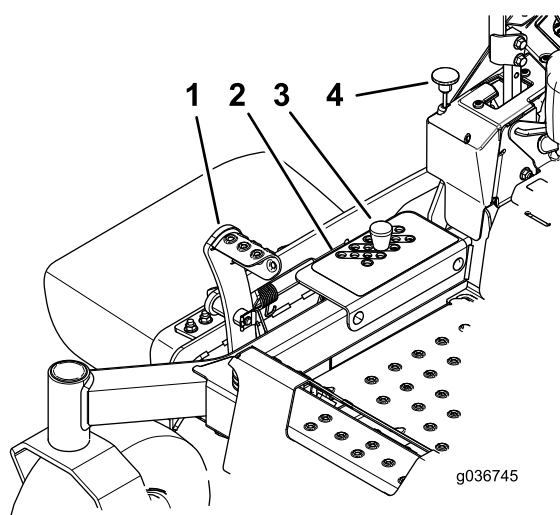

Figure 30
2. Push on the deck-lift pedal with your foot and raise the mower deck to the TRANSPORT position (also the 127 mm or 5 inch cutting-height position) as shown in Figure 30.
3. To adjust, remove the pin from the height-of-cut bracket (Figure 30).
4. Select a hole in the height-of-cut bracket corresponding to the height-of-cut desired, and insert the pin (Figure 30).